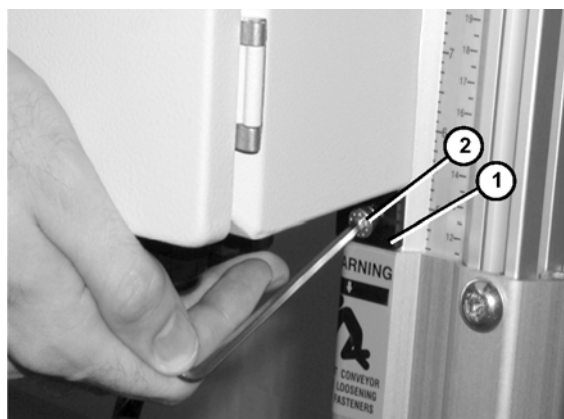

Figure 6
2. Partially thread controller mounting bar (**Figure 6, item 1**) to lower t-nut with screw (**Figure 6, item 2**).